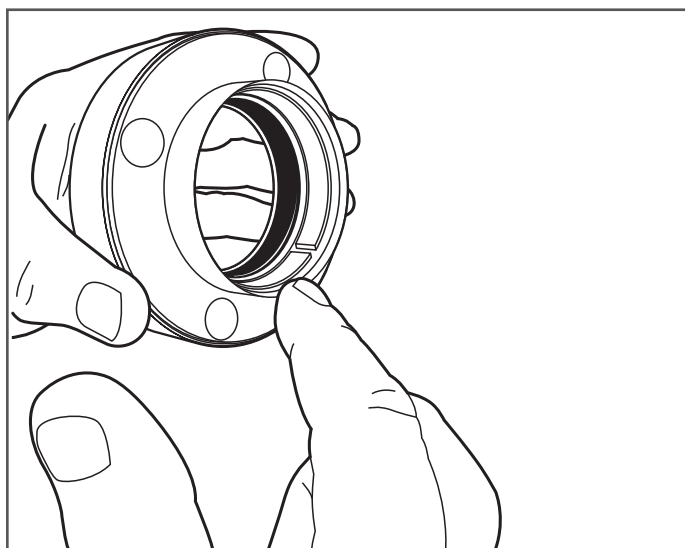

Figure 7-10
11. Ensure that the Pusher Ring, Spiral Retaining Ring, and square profile Rear Seal are installed within the back section of the fitting (Figure 7-10).